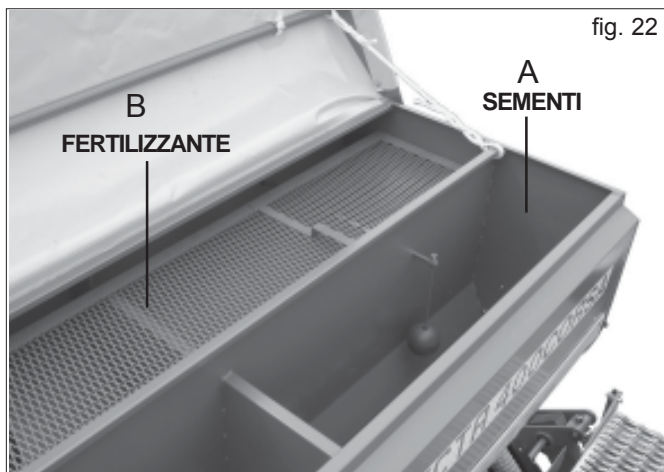

fig. 22
The COMBINED distribution hopper is divided into two compartments (Fig. 22): the rear one (A) for the seeds and the front one (B) for the fertilizer. The fertilizer compartment is also fitted with a grille to sift any foreign bodies and lumps that could damage the dosing mechanism. Each compartment has its own controls for the adjustment of seed and fertilizer distribution rates.